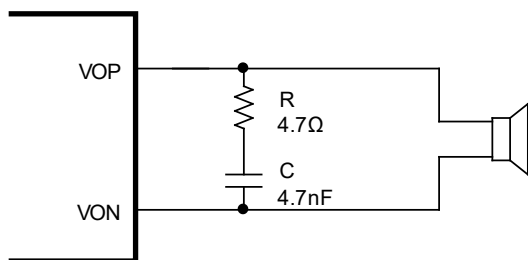

Figure 5. RC Snubber Circuit
4. For applications where the power supply is rated more than 4.6V or the load resistance less than 6Ω, it is strongly recommended to add a simple snubber circuit (as shown in Figure 5) between the two output pins, VOP and VON, to prevent the device from accelerated deterioration or abrupt destruction due to excessive inductive flybacks that are induced on fast output switching or by an over-current or short-circuit condition.
For applications where the power supply is rated more than 4.6V or the load resistance less than 6Ω, it may become necessary to add an RC snubber circuit between the two output pins, VOP and VON, for robustness and reliability. Figure 5 shows a simple RC snubber circuit, which can be used to prevent the device from accelerated deterioration or abrupt destruction due to excessive inductive flybacks that are induced on fast output switching or by an over-current or short-circuit condition.